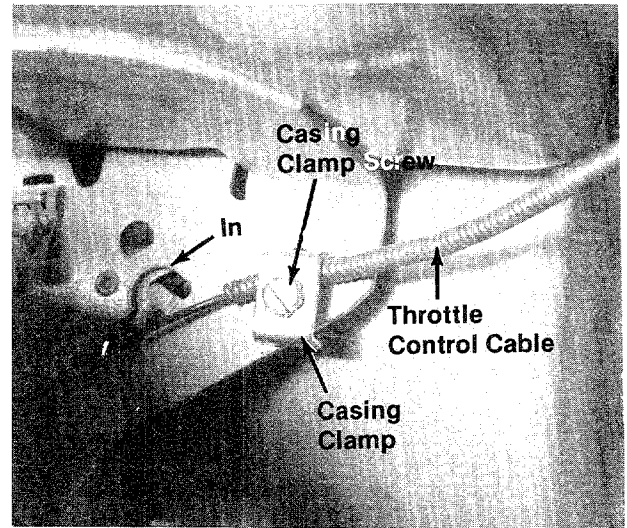

FIGURE 33.
3. Tighten the casing clamp screw. See figure 33.